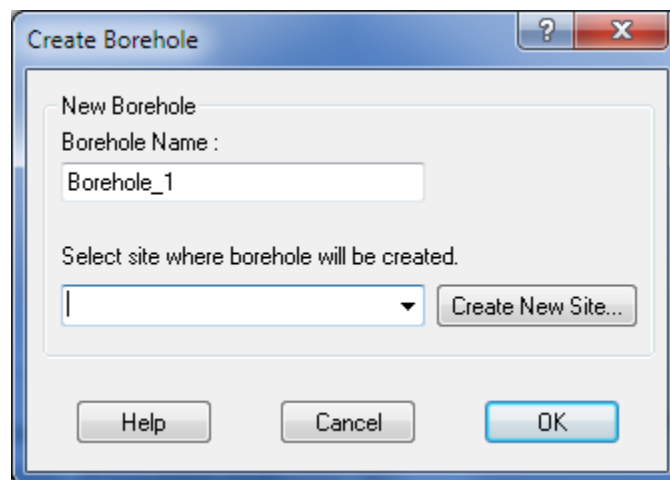
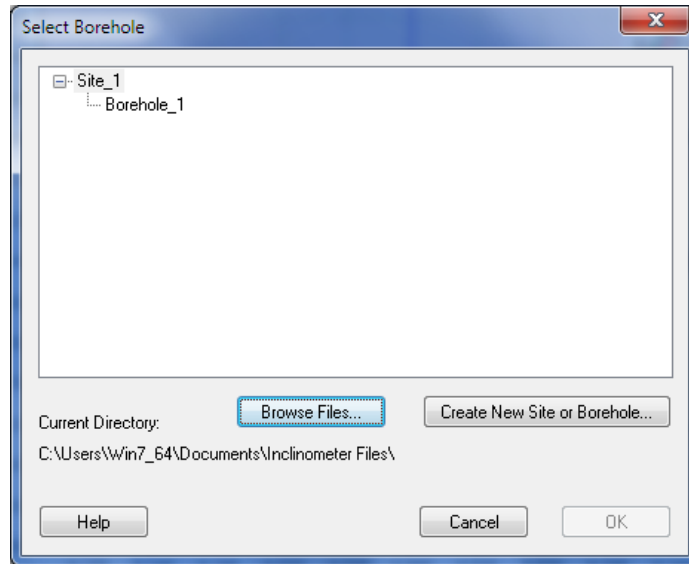

FIGURE 6-5 CREATE NEW BOREHOLE
FIGURE 6-6 CREATED NEW BOREHOLE SELECTION
- 6 Click on the **Create New Site** (Figure 6-5) button and enter the name of the new site or accept the default. The site folder will contain all of the boreholes associated with this new site. Click **OK** to return to the **Create Borehole** dialog box. Overwrite the default borehole name if you wish and click **OK**. The **Borehole Selection** screen will be shown listing the newly created site and borehole (Figure 6-6).